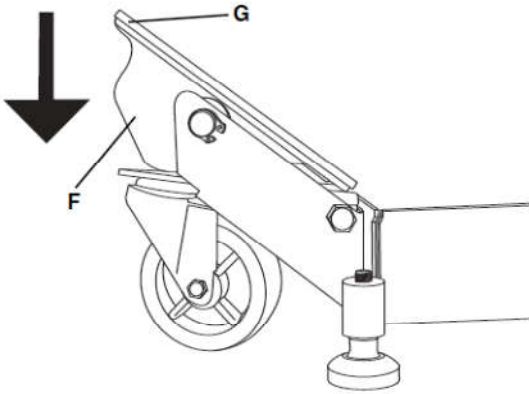

Fig. 2
1. To raise the mobile base from the lowered, stationary position, push the top (G) of each foot pedal (F) down until the pedal locks into place. In the lowered position, the leveling screws are in contact with the floor. See figure 2.